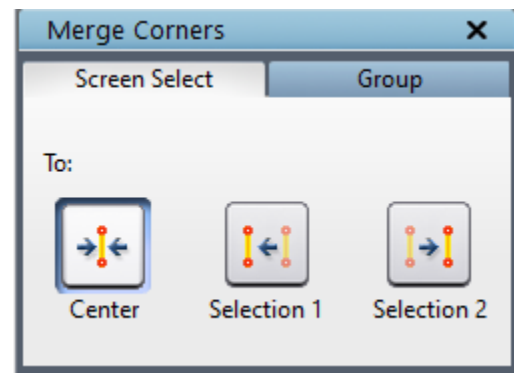

Figure 4.60: Screen select tab dialog box
**Screen select** tab provides you three options to position the selected corners after merge as shown in figure 4.60. First is **To Center** option that will position the merged corners to the center of the input corners. Second is **To Selection 1** option that will position the merged corners to the first selected corners' position. Similarly **To Selection 2** will position the merged corners to the second selected corners'. After selecting the position where corners need to be placed after merging select the corners using mouse right click. A corner or sheet of corners can be selected. A single drag box will work if two separate sheets of corners are used but you need to drag two boxes separately when the sheets of corners are linked to each other.